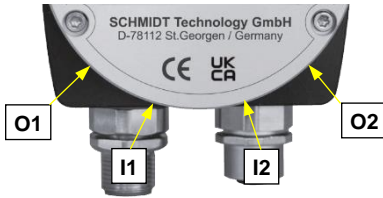

Figure 5-2 Position of LEDs for alternating flashing or moving light
- „O1“, „O2“; „I1“, „I2“: LEDs near both connectors („O“: outside; „I“: inside, see Figure 5-2)